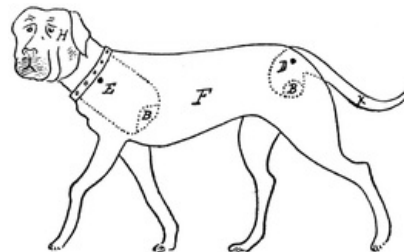
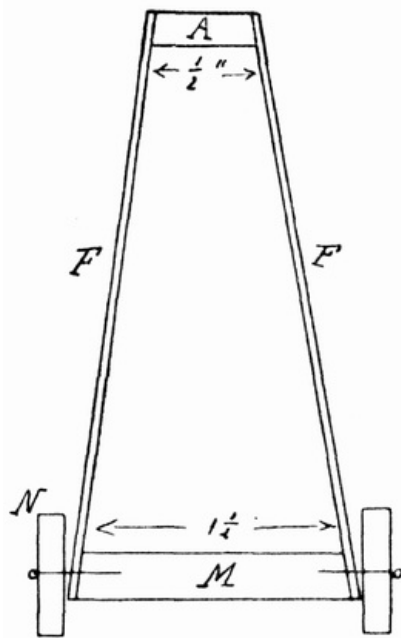

FIG. 461
FIG. 462
**A Lively Dog.** Cut out with a fret-saw two pieces of wood as F in Fig. 461, which represents the body and legs of a dog in one piece. Now cut out the head H (notice length of neck behind body) and the tail K from wood  $\frac{1}{4}$  inch thick.
Now glue the two bodies to a piece of stripwood A ( $\frac{1}{2}$  inch by  $\frac{1}{2}$  inch) placed along the tops of bodies inside (Fig. 462), and bevelled so that the legs of the dog will be further apart than the upper portion. The legs are joined by pieces of stripwood, M,  $\frac{1}{4}$  inch by  $\frac{1}{4}$  inch, about  $1\frac{1}{2}$  inches long. Notice that the ends of these strips are bevelled. Now make hole, E, in the head-piece; notice that there is the same length of wood above E as below it. Make corresponding holes E in sides F. Pass a piece of wire through the hole in the dog's head and see how it hangs; the head portion will be the heavier and sink. Now take the head off, saw out a piece of wood at B, insert a piece of lead and try again. It is an easy matter if too much lead has been added to cut off a little. When the head is correctly balanced, as in Fig. 461, bend over the wire so that it cannot come off. The tail, K, is attached in the same way.